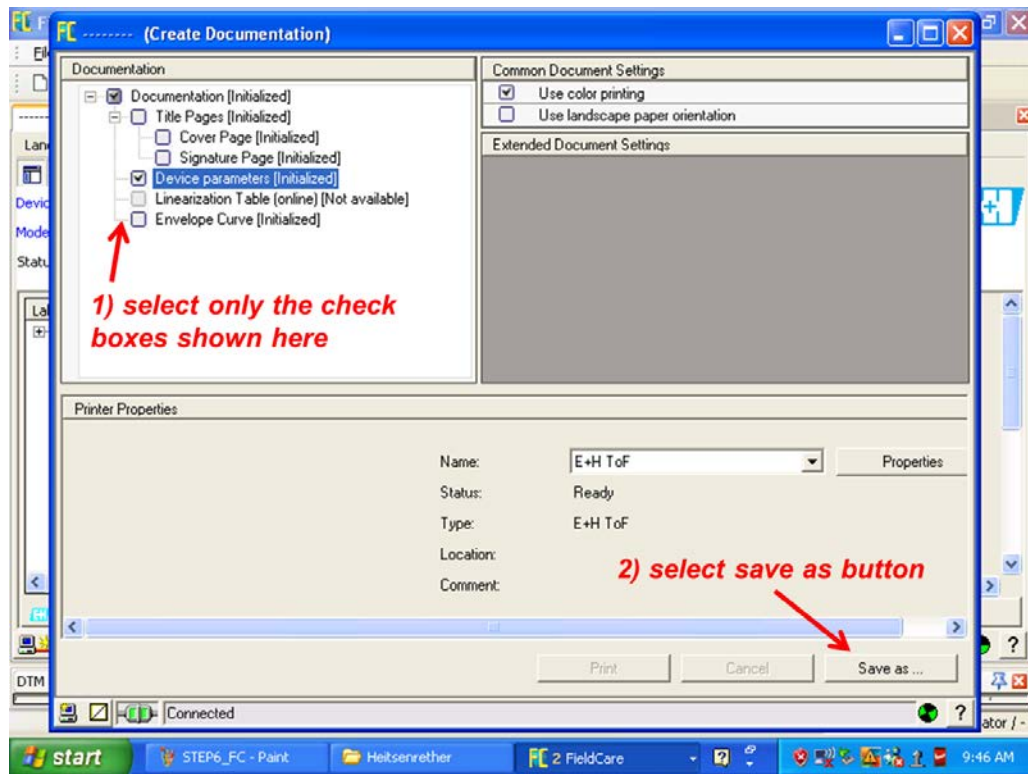

Figure 2-6. Step 3 of saving parameter settings to a PDF file.
2. When the **Create Documentation** window appears follow the steps in fig. 2-6.